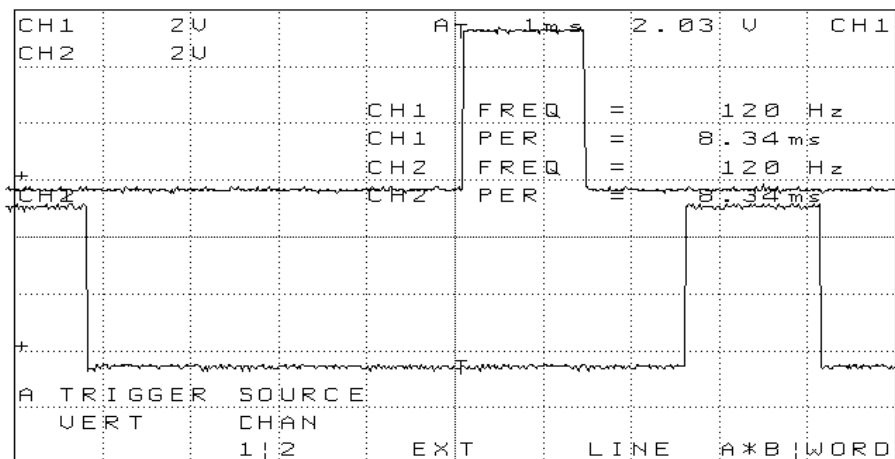
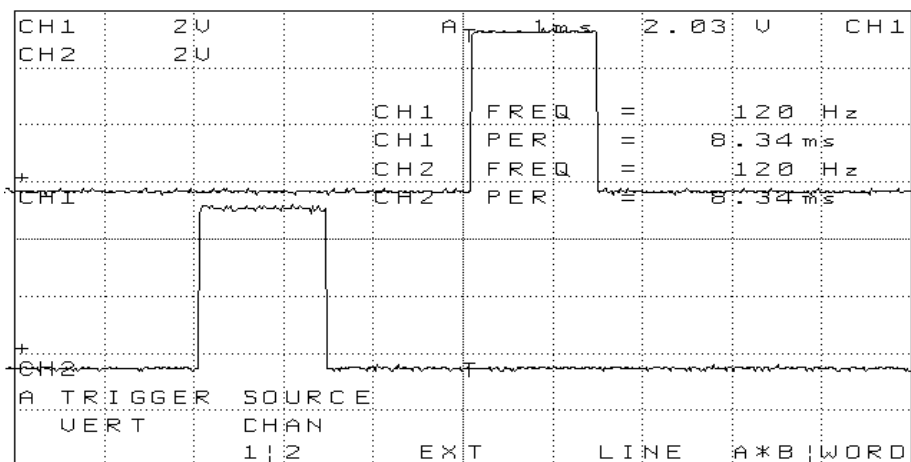

Figure 2.
Figure 3.
- i. With 30 still connected apply power and observe TP1 with channel 1 and TP2 with channel 2 of the oscilloscope and observe the waveforms in FIGURE 2. The waveform present on TP1 will also be on TP4 and the waveform on TP2 will also be on TP5. Now move Channel 2 from TP2 and place on TP3, observe the waveforms of FIGURE 3. The waveform present on TP3 will also be present on TP6.